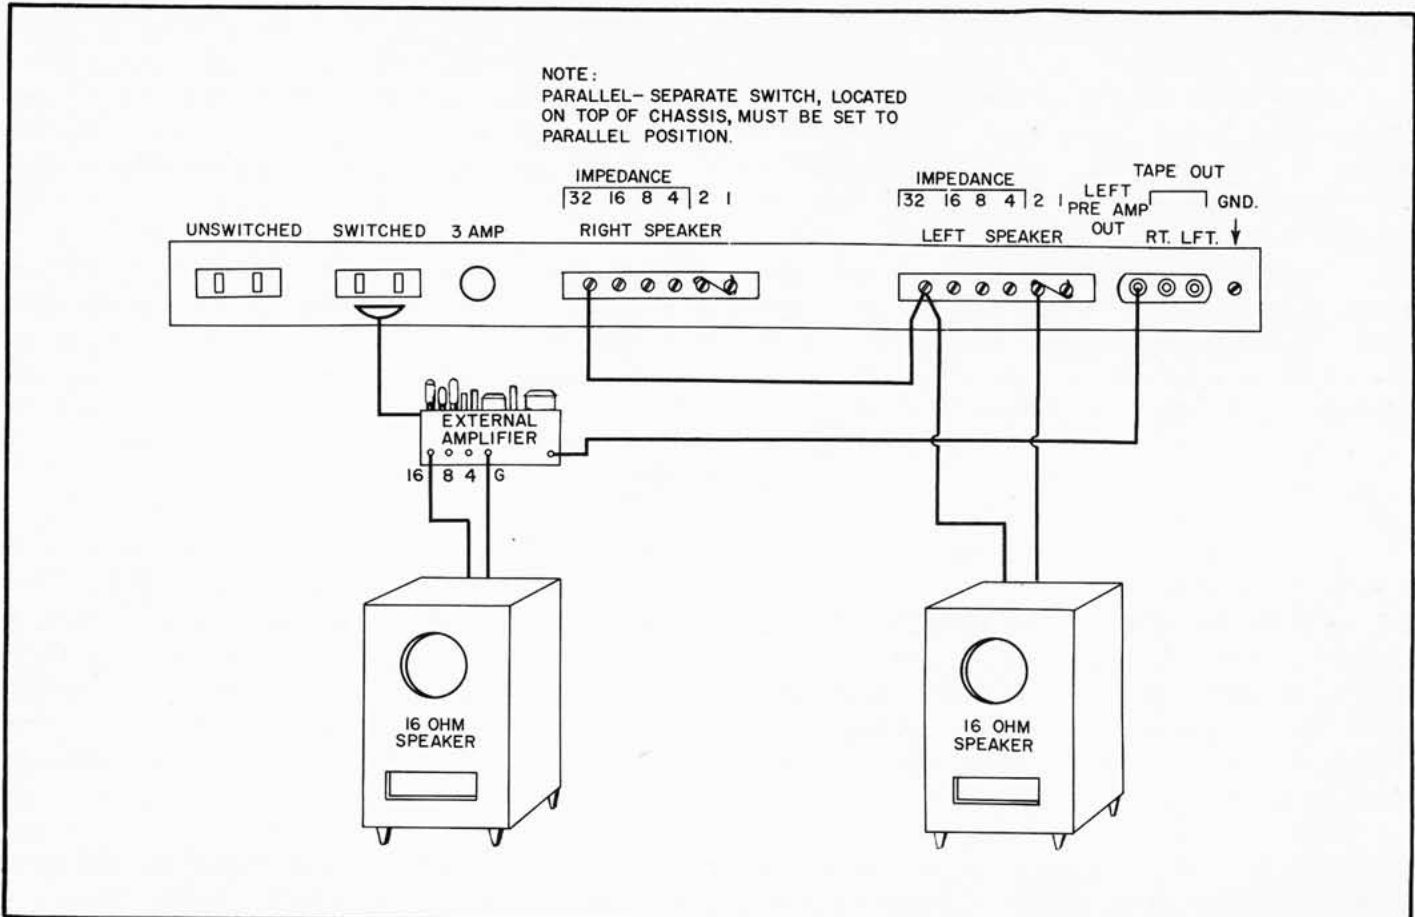

Fig. 3. Stereo Setup Using an External Power Amplifier for One Channel, with the SA-40 Used as a Double-Power Amplifier for the Other Channel.
2. For this type of setup, the Parallel-Separate switch is set to the Parallel position. It will be necessary to parallel the appropriate speaker outputs on the rear apron of the SA-40. (See Fig. 3.) If 16-ohm speakers are used, the 32-ohm terminals must be connected together; if 8-ohm speakers are used, the 16-ohm terminals must be connected together. Then connect an output cable from the Left Preamp Out jack on the SA-40 chassis to the input of your separate power amplifier. (Also see Fig. 3.)
Your SA-40 may be used as a complete stereo amplifier, with 20 watts of audio in each channel; or it may be used as a 40-watt monophonic amplifier when the Separate-Parallel switch (located on the chassis) is in the Parallel position. When the SA-40 is used as a monophonic amplifier, the left preamplifier section is not used; however, its output is available at the rear apron, should you desire to drive an external 40- to 60-watt power amplifier when large areas must be filled with stereophonic sound. Whenever the Separate-Parallel switch is in the Parallel position, the appropriate speaker outputs must be paralleled, or connected together. This is illustrated in Fig. 3.